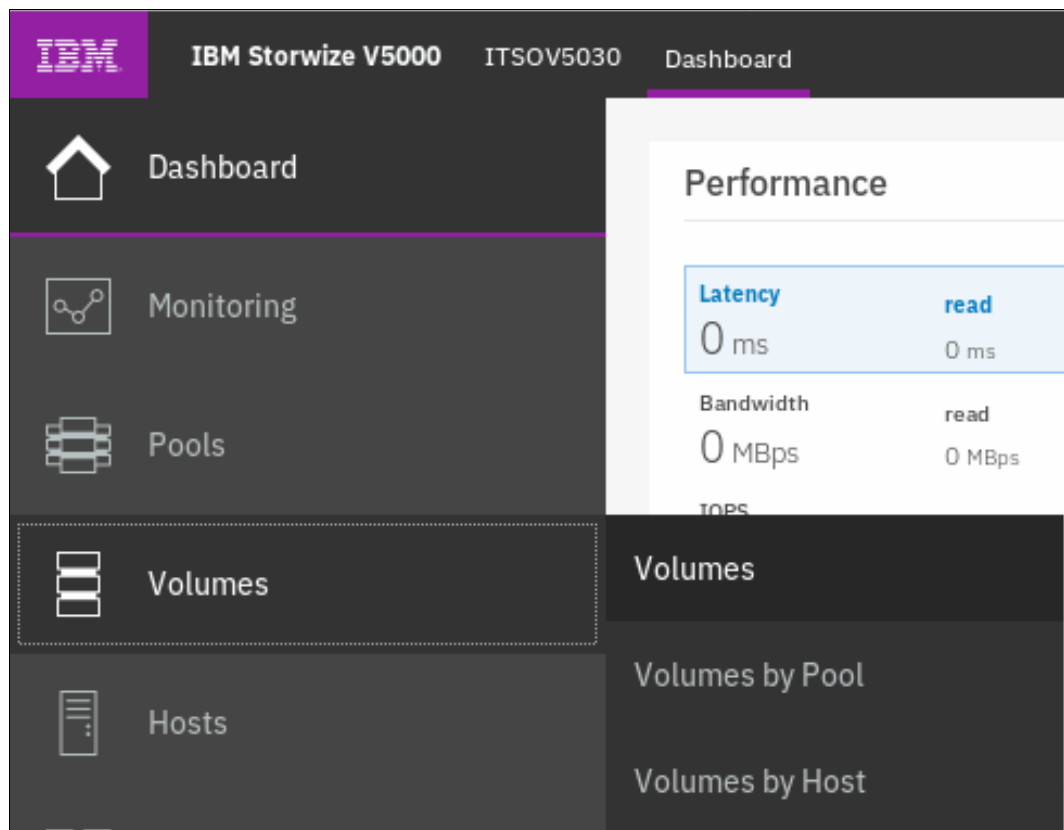

Figure 6-43 Volumes submenu option from main window
1. Click **Volumes** in the main window and select the **Volumes** submenu option, as shown in Figure 6-43.